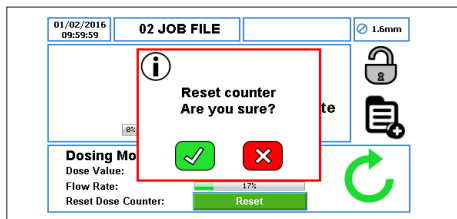

Figure 13 Home Screen - Reset Dose Counter
5. The reset icon resets the dose counter to zero. This can only be pressed if the pump is stopped. When this icon is pressed, the user will be prompted to confirm the selection as per Figure 13.